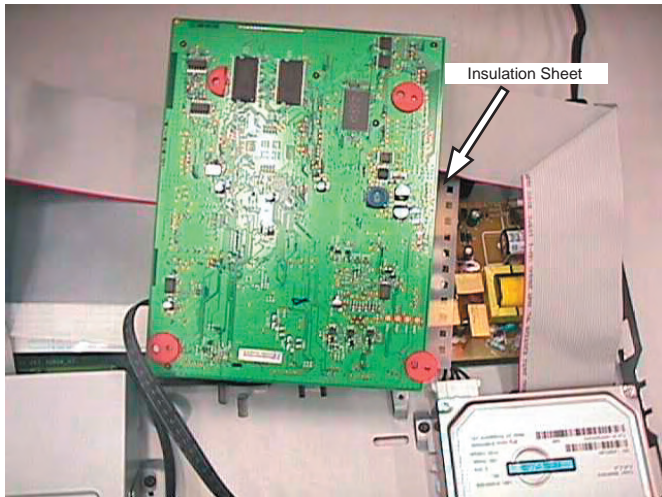

Figure 4-6: Digital Board Service Position
- 2) Service position for Digital Board is given in Figure 4-6.